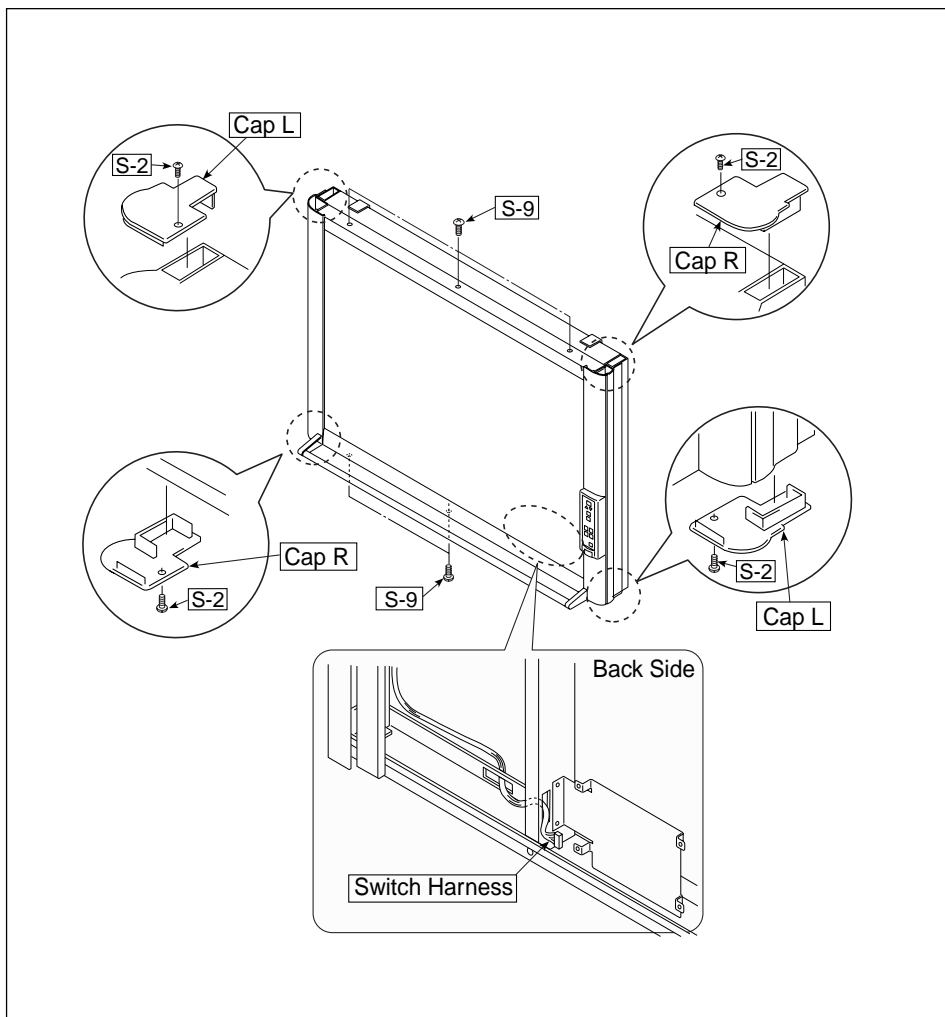

Fig. 6
4) Remove the Frame Cover Section. (See Fig. 6.)
1. Remove the "S-2" and "S-9" screws shown in Fig. 6.